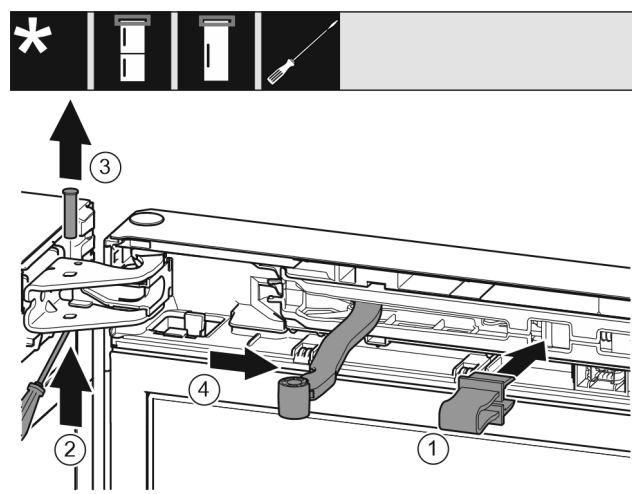

Fig. 9
- Snap the locking device Fig. 9 (1) into the opening.
- Pull out the pin Fig. 9 (2).
- Pull out the pin Fig. 9 (3) upward.
- Turn the joint Fig. 9 (4) towards the door.